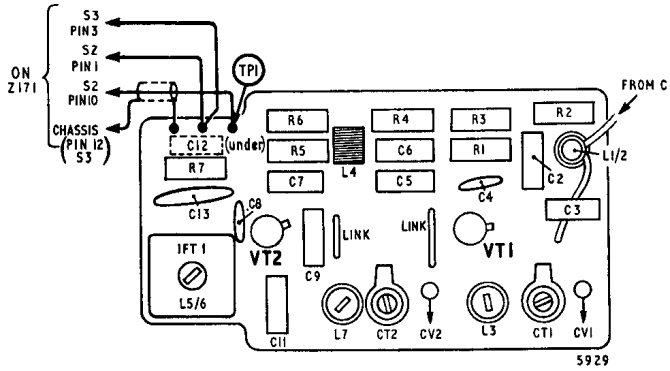

Fig. 10 V.H.F. Unit (A778)
- 2 Set the signal generator to 10.7 MHz, unmodulated. Inject the output to TP 1 (see Fig. 10) and chassis, ensuring not to short circuit the output leads of the generator to the centre pin of the tuner unit as it may cause damage to VT3.